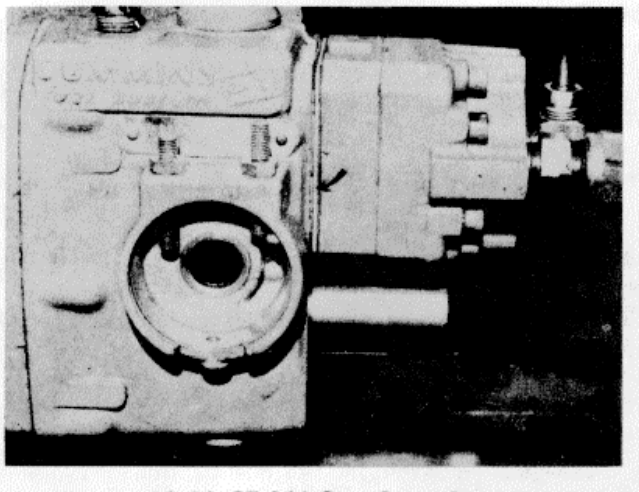

Figure 16G-96. ST-844 Gear Pump Block Plate
2. Install ST-844 Gear Pump Block Plate, with gasket on each side, between gear pump and fuel pump body, Figure 16G-96.